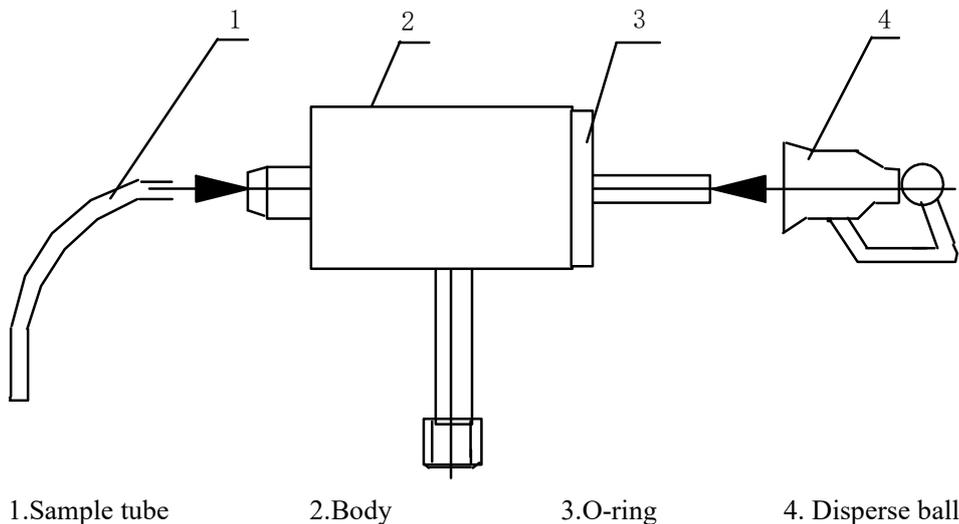

Figure 4-51b Glass Atomizers
- a. Loosen the screw, lift up the tablet, carefully move the glass atomizer away, open the air compressor's power, insert the sample tube (1) into the deionized water, gently turn the disperse ball (4) (Figure 4-51b) to make the spray up to the best state
- b. When there is debris in the sample tube, similarly, carefully move away the disperse ball (4), open the air compressor's power, insert the sample tube (1) into the deionized water, block the nozzle with your fingers for a few seconds, quickly let go, until all the debris blown out from the tube.